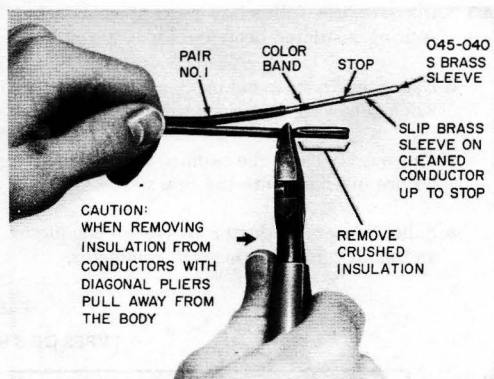

Fig. 4—Removing Insulation and Installing Brass Sleeve (Drop Wire)
POLE AT ROADS EDGE (WITHIN 50 FT OF FAR EDGE [FIG. 4]) *	D
POLE AT ROADS EDGE (WITHIN 50 FT OF FAR EDGE [FIG. 4])	F
POLE AT ROADS EDGE (WITHIN 50 FT OF FAR EDGE [FIG. 4])	H
- (4) Remove insulation, clean conductors with diagonal pliers, and install brass sleeves (Fig. 4).